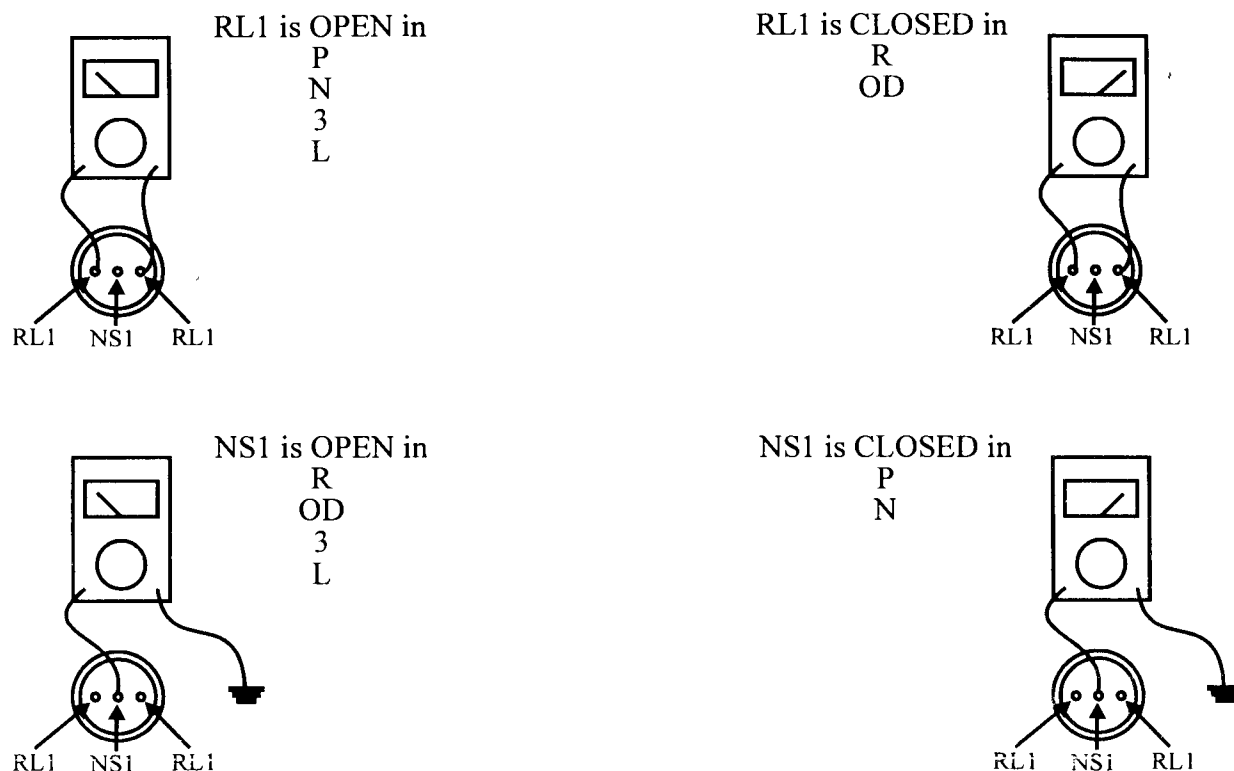
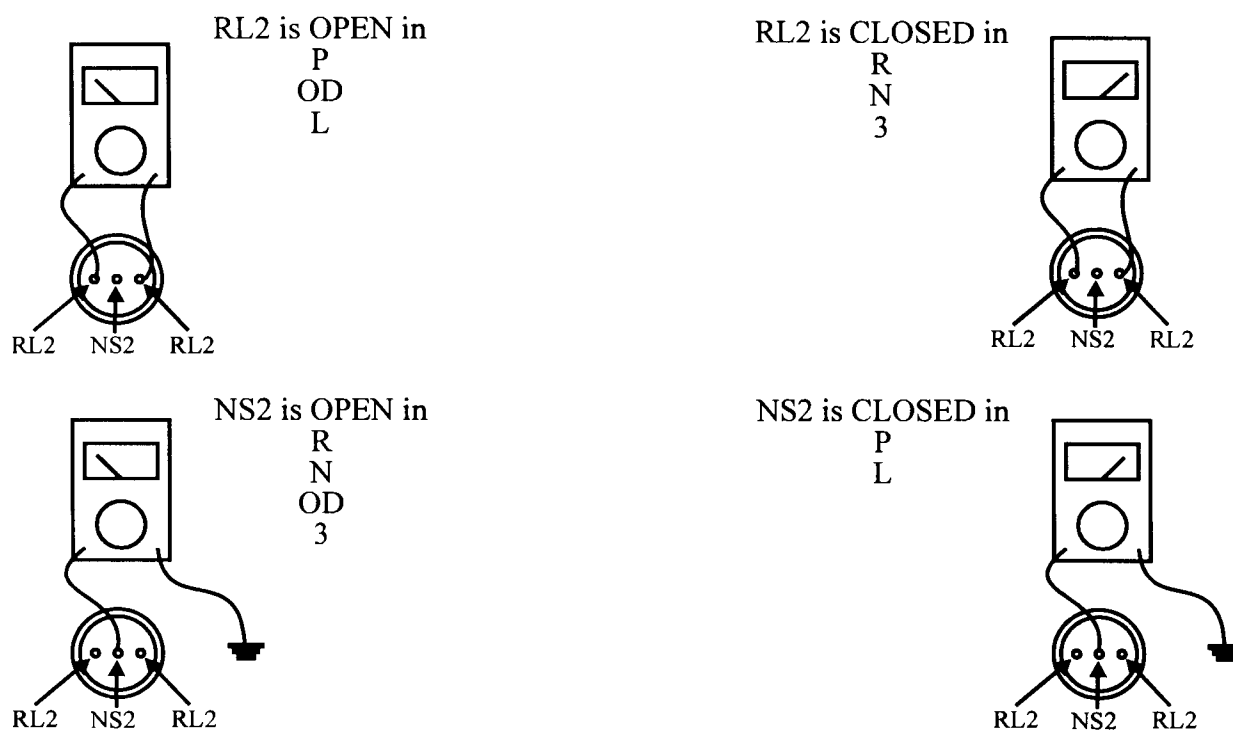

Figure 36
Figure 37
- Once the circuit which malfunctioned has been identified, a check needs to be made on that specific circuit. The first step is to check the PRNDL & Neutral switch operation with the use of a ohm meter. This will check the integrity of the switch as well as the plastic cam located on the manual valve detent assembly. Use Figure 36 to check the specific circuit in question for the Neutral Safety switch or Figure 37 for the PRNODL switch.